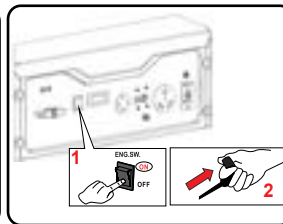

Fig 11 Recoil Start
- Push the ON/OFF switch to the "ON" position. Pull the recoil handle (starter cord) slowly until resistance is felt, return, then pull rapidly. (See fig 11)